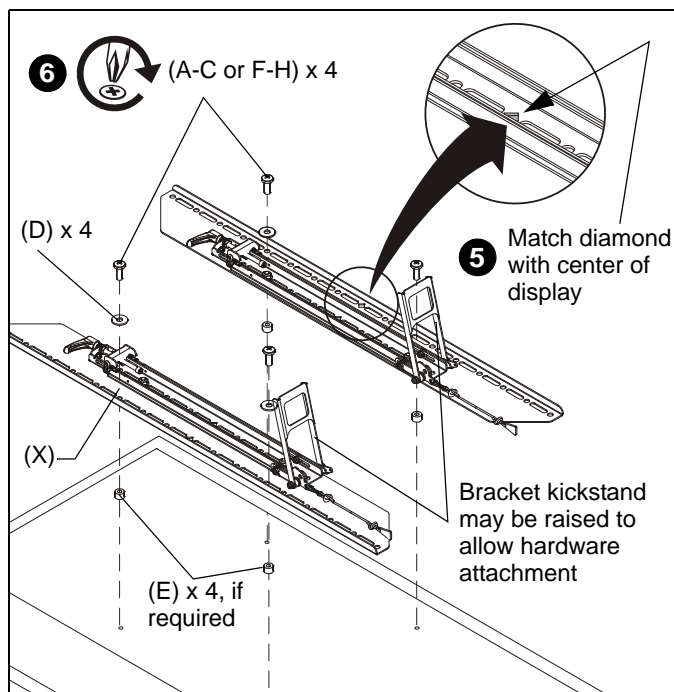

Figure 12
- Select screw *diameter* by examining hardware (A-C and F-H) (6mm or 8mm) and comparing with mounting holes on display. (See Figure 12)
- Spacers are **NOT** required if mounting holes are not recessed and interface brackets (X) can lay flat against display.
- Spacers (E) **ARE** required if mounting holes are recessed, or if protrusions prevent interface brackets (X) from laying flat.
- Select screw *length*: (See Figure 12)
- By hand, insert **SHORTEST** length screw of selected diameter (A or F) through 3/16" washer (D, if using screw A), bracket (X), selected spacer (E, if required), into display mounting hole. Do **NOT** thread screw into hole at this time.
- Make sure diamond on interface brackets is even with center of display. (See Figure 12)
- Use selected screws (A-C or F-H), washers (D, if using screws A, B or C) and spacers (E), if necessary, to connect interface brackets (X) to back of display. (See Figure 12)